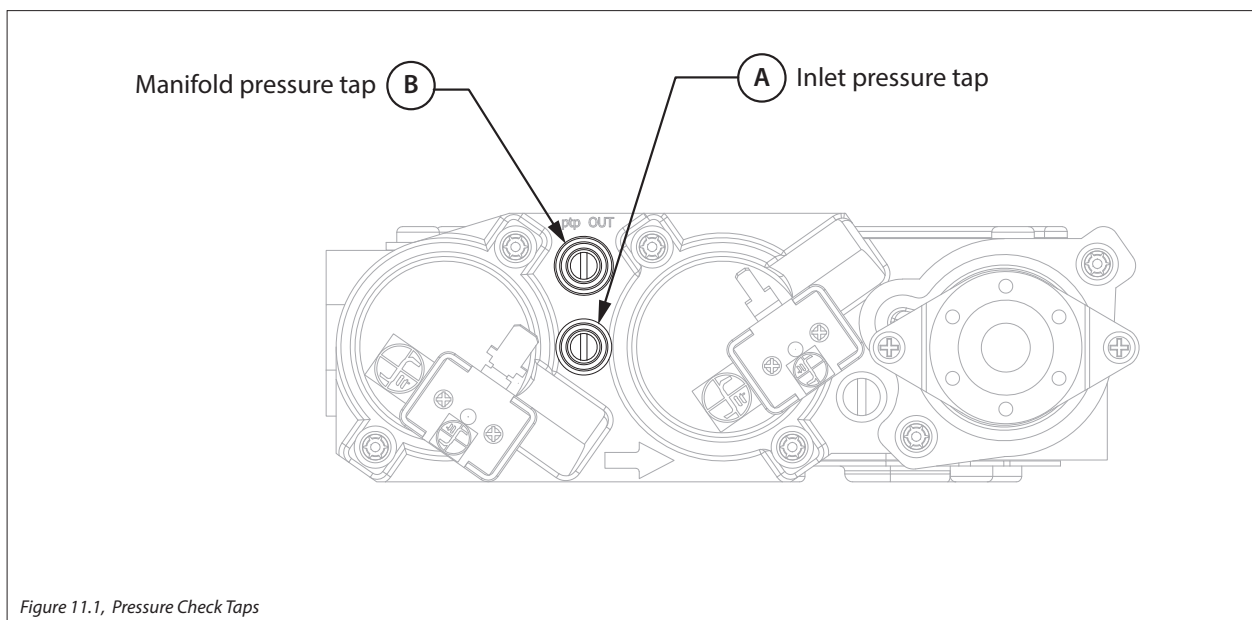

Figure 11.1, Pressure Check Taps
1. Loosen the inlet (IN) pressure tap by turning screw counter-clockwise. See (A) in **FIGURE 11.1**.
5. Disconnect hose and tighten the inlet (IN) pressure tap by turning screw clockwise. Screw should be snug. Do not over tighten.
6. Relight pilot and burner. Then reattach manometer to the inlet pressure tap (A) to verify the tap is completely sealed. Manometer should read no pressure.
2. Loosen manifold (OUT) pressure tap by turning screw counter-clockwise. See (B) in **FIGURE 11.1**.
7. Attach the manometer to the manifold pressure tap (B) to verify it is completely sealed. The manometer should read no pressure when pilot and burner are on.